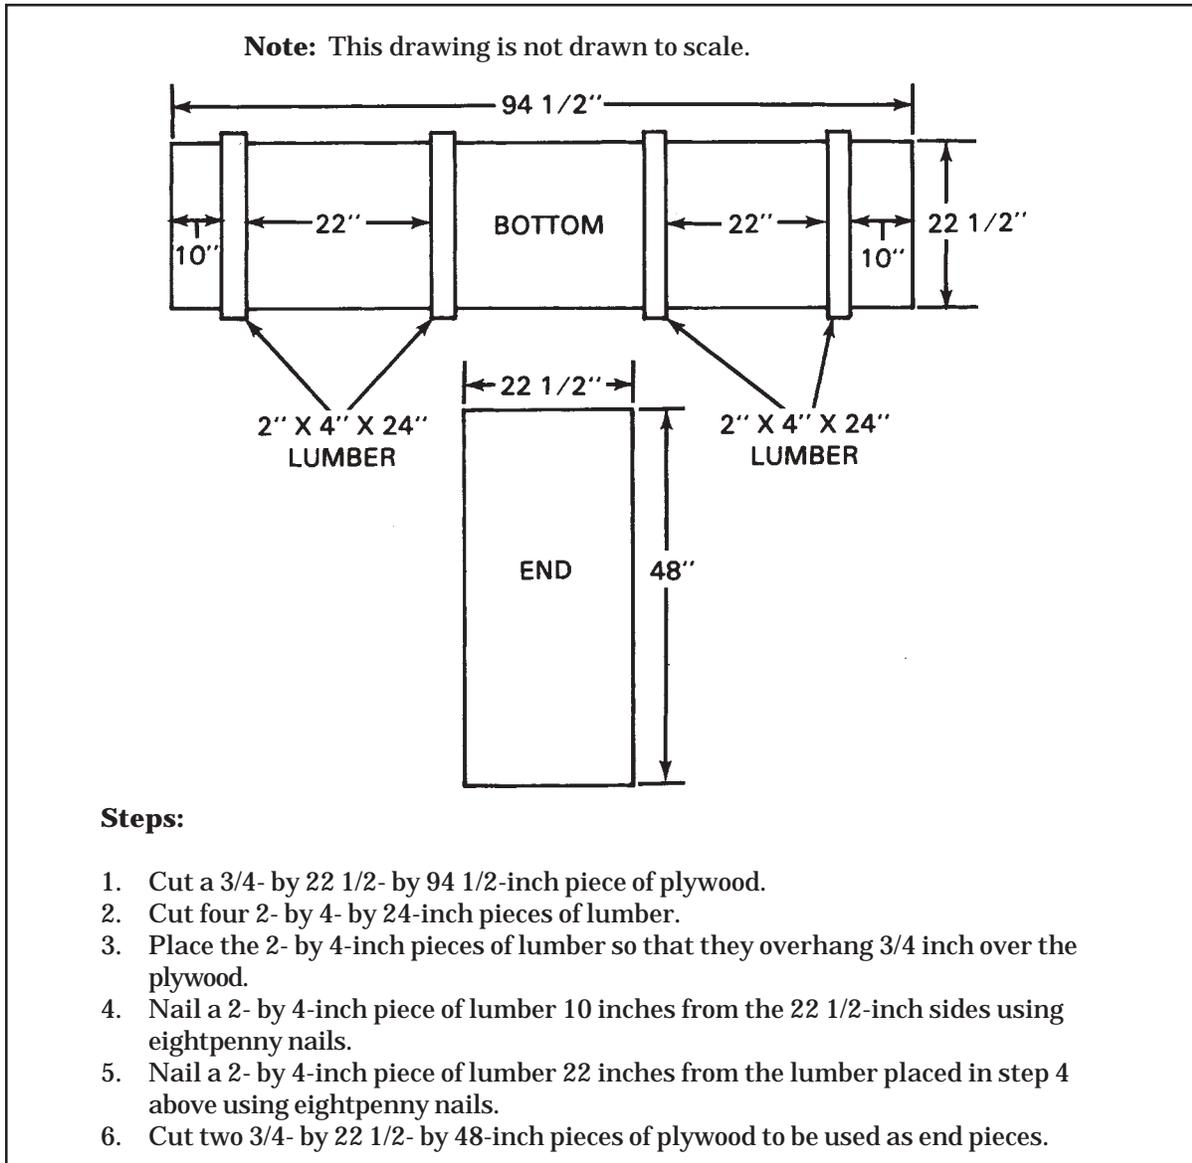

Figure 1-5. Bottom and Ends for FARE Container Built
c. **BUILDING BOTTOM AND ENDS.** Build the bottom and ends for the container as shown in Figure 1-5.